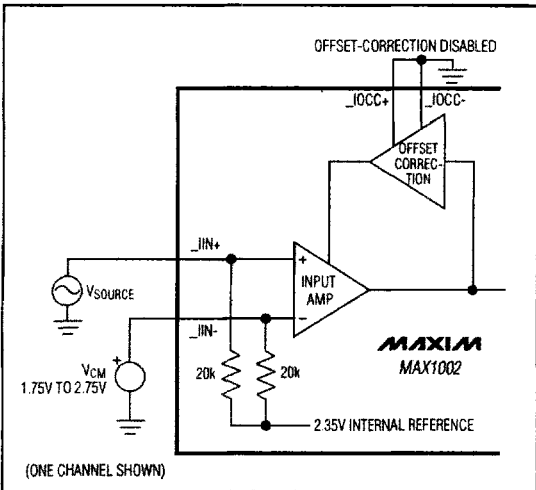

Figure 4. Single-Ended DC-Coupled Input
**Note 2:** A typical application will AC couple the analog input to the DC bias level present at the analog inputs (typically 2.35V). However, it is also possible to DC couple the analog input (using differential or single-ended drive) within this common-mode input range (Figures 4, 5).
Figures 4 and 5 show single-ended and differential DC-coupled input circuits for applications where a DC component of the input signal is present. The amplifiers' input common-mode voltage range extends from 1.75V to 2.75V. To prevent attenuation of the input signal's DC component when operating in this mode, disable the offset-correction amplifier by grounding the `_OCC+` and `_OCC-` pins for the I and Q blocks (Figures 4 and 5).